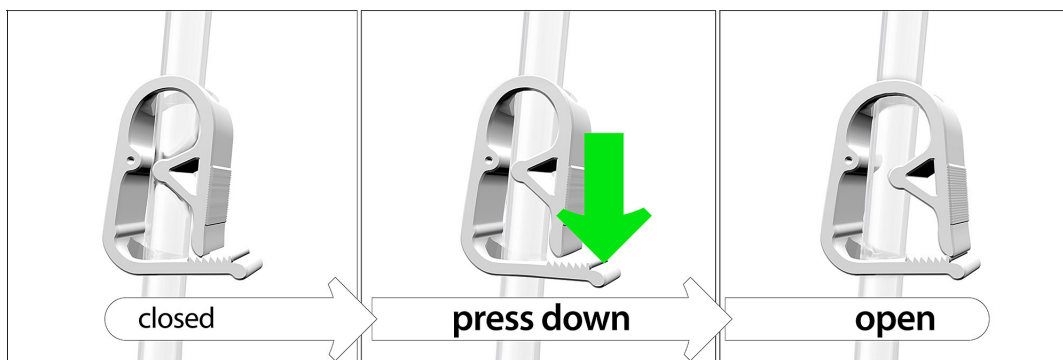

Figure 16
3. Verify the dressing application is correct, the tubing is connected and the tubing clamp is open (**Figure 16**).
2. Close tubing clamp (**Figure 16**).